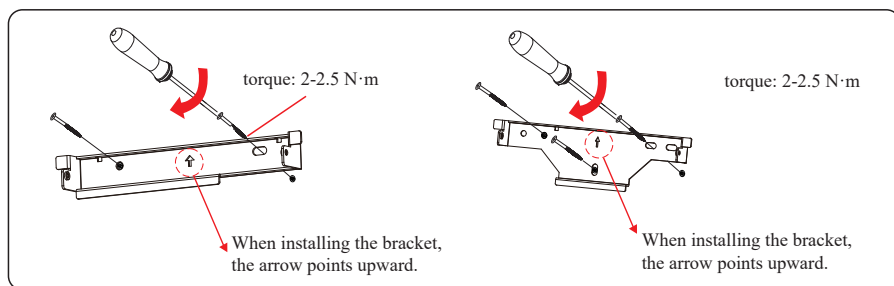

Figure 4.13 Installing the mounting bracket
Step 5 Align the mounting bracket with the holes, insert expansion bolts into the holes through the mounting bracket and tighten the expansion bolts to a torque wrench (torque $2-2.5 \text{ N}\cdot\text{m}$), as shown in Figure 4.13.